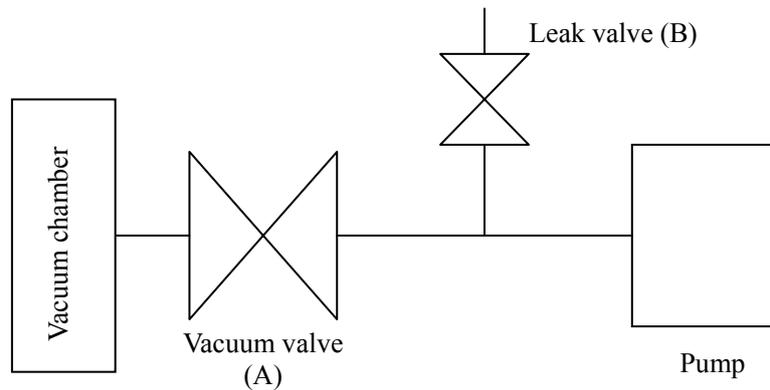

Fig. 5 Basic piping diagram to the vacuum chamber
- (2) Mount vacuum valve (A) and leak valve (B) between the vacuum chamber and pump as shown in Fig. 5
- ① In the process of manufacturing semiconductors, pump oil may deteriorate over a very short period of time. It is recommended that the pump oil should be replaced within 10 days after starting use of the pump, and the replacement frequency of the pump oil should be decided based on the contamination level of the pump oil.
- ② If the pump evacuate a lot of moisture, replace the oil frequently. If the pump is used with gas which contains a lot of moisture, the lubricity of the pump oil deteriorates and corrosion of the pump's components advance, causing the pump to malfunction.
- ③ If chemicals including acid has been evacuated, the pump may become rusty while it is not being operated (i.e. overnight), making operation impossible. If such chemicals are evacuated, replace the pump oil immediately.
- ④ Solvents which deteriorate the lubricity of the pump oil will cause scoring, etc. If such a solvent is evacuated, replace the oil.
- ⑤ If operation is performed continuously at a high evacuation pressure of 1 kPa or more, a large amount of pump oil is consumed, causing a shortage of oil and insufficient lubrication of the pump. If such a condition continues, components will rapidly wear and become scored. Avoid continuous operation at a high evacuation pressure as much as possible and, without fail, add pump oil.
- ⑥ This pump uses carbon in internal member of framework. Oil may become black when it runs. However, there is not it in the aberration.
To start operation, close leak valve (B), open vacuum valve (A) to the inlet port, and turn on the power switch. Then the pump starts beings to exhaust (see Fig. 5).
To stop operation, close vacuum valve (A), open leak valve (B) quickly, and turn the power switch off (see Fig. 5).